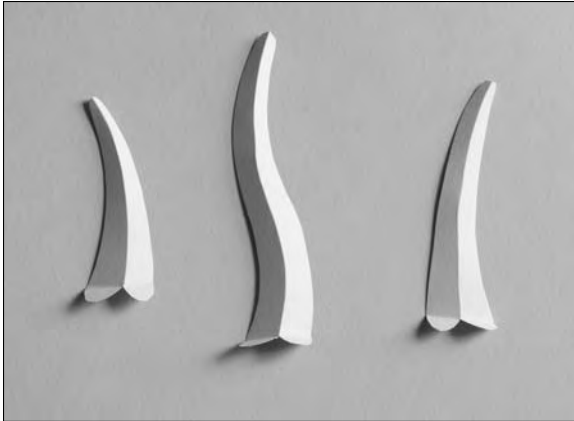

Figure 9-9:
3. Make the parts for the picture frame (as in Figure 9-9).